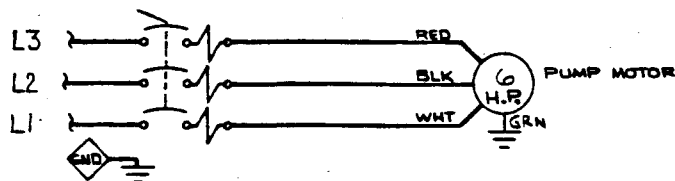

Figure 7. Elementary Wiring Diagram (Without Liquid Level Controls)
- a. Measure the incoming voltage across lines (1 & 2, 2 & 3, and 1 & 3.) while the pump is **operating at full capacity**. See Figure 7 on page B-15 or Figure 9 on page B-16.
Connect the pump power cable to the control box as shown in Figure 7 on page B-15 or Figure 9 on page B-16. Use conduit or cable clamps to secure the power and accessory cables to the control box. Make certain that all connections are tight and that cable entry points are rainproof.